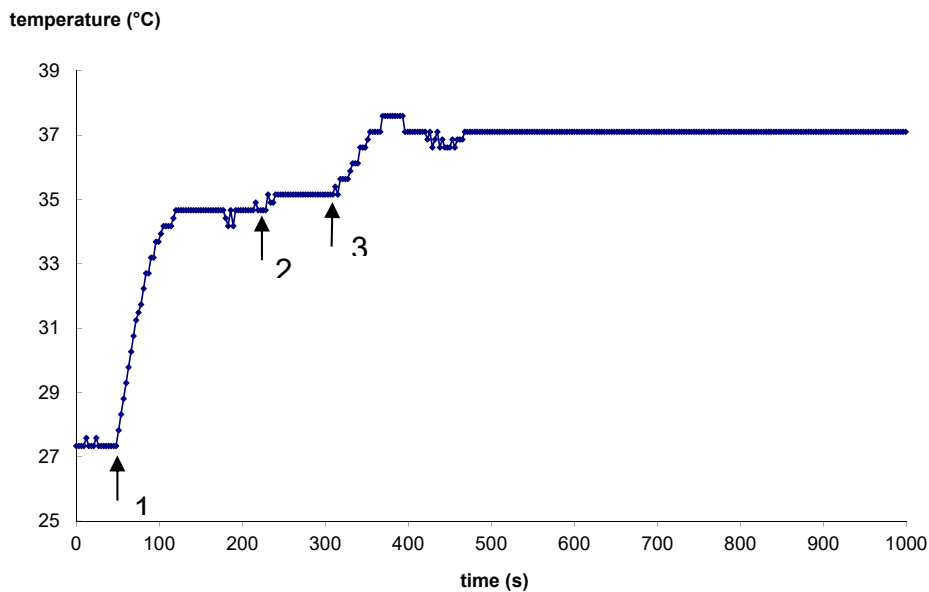

Figure 6: Time course of temperature regulation of the TC-20 (channel A).
- If the desired temperature is not reached first set the GAIN to a slightly higher level and then – if necessary – raise the INTEGRATION (see Figure 6).
In Figure 6 the time course of temperature regulation of the TC-20 (channel A) is shown. As resistive load a bulb (12V, 21W) was used. The temperature sensor was fixed directly on the bulb and sensor and bulb were wrapped with foam. Starting temperature was 27.3 °C. Starting conditions were: LIMITER set to 0, GAIN set to 0, INTEGRATION off.